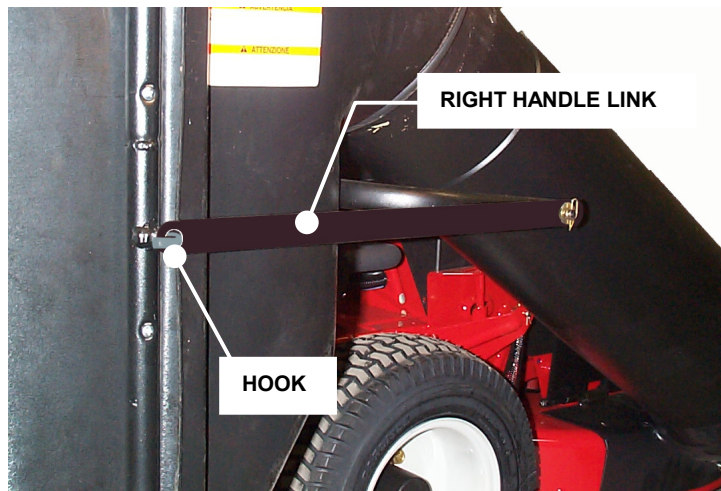

FIGURE 1.8
- A. Insert hook on the right Rear Cover Assembly into round hole in right Handle Link. Note: right Handle Link is flat, no bend. See Figure 1.8.